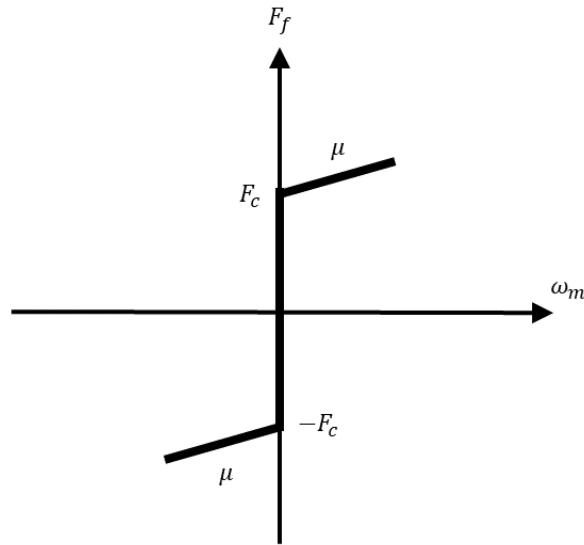

Figure 1.2: Coulomb and viscous friction model
Rotary and linear motion control systems based on mechanical system often have friction. The Coulomb and viscous friction model shown in Figure 1.2 is one of the most common friction models.
- (a) Use the Coulomb & Viscous Friction block found in the *Discontinuous* library to model the friction. As shown in Figure 1.2, the Coulomb friction model assumes the positive and negative force, F_c , to be symmetrical. If the positive and negative Coulomb friction found are not the same, i.e. $V_{c+} \neq V_{c-}$, take the largest one and let that be the equivalent Coulomb friction, i.e. $V_c = \max \{V_{c+}, V_{c-}\}$.